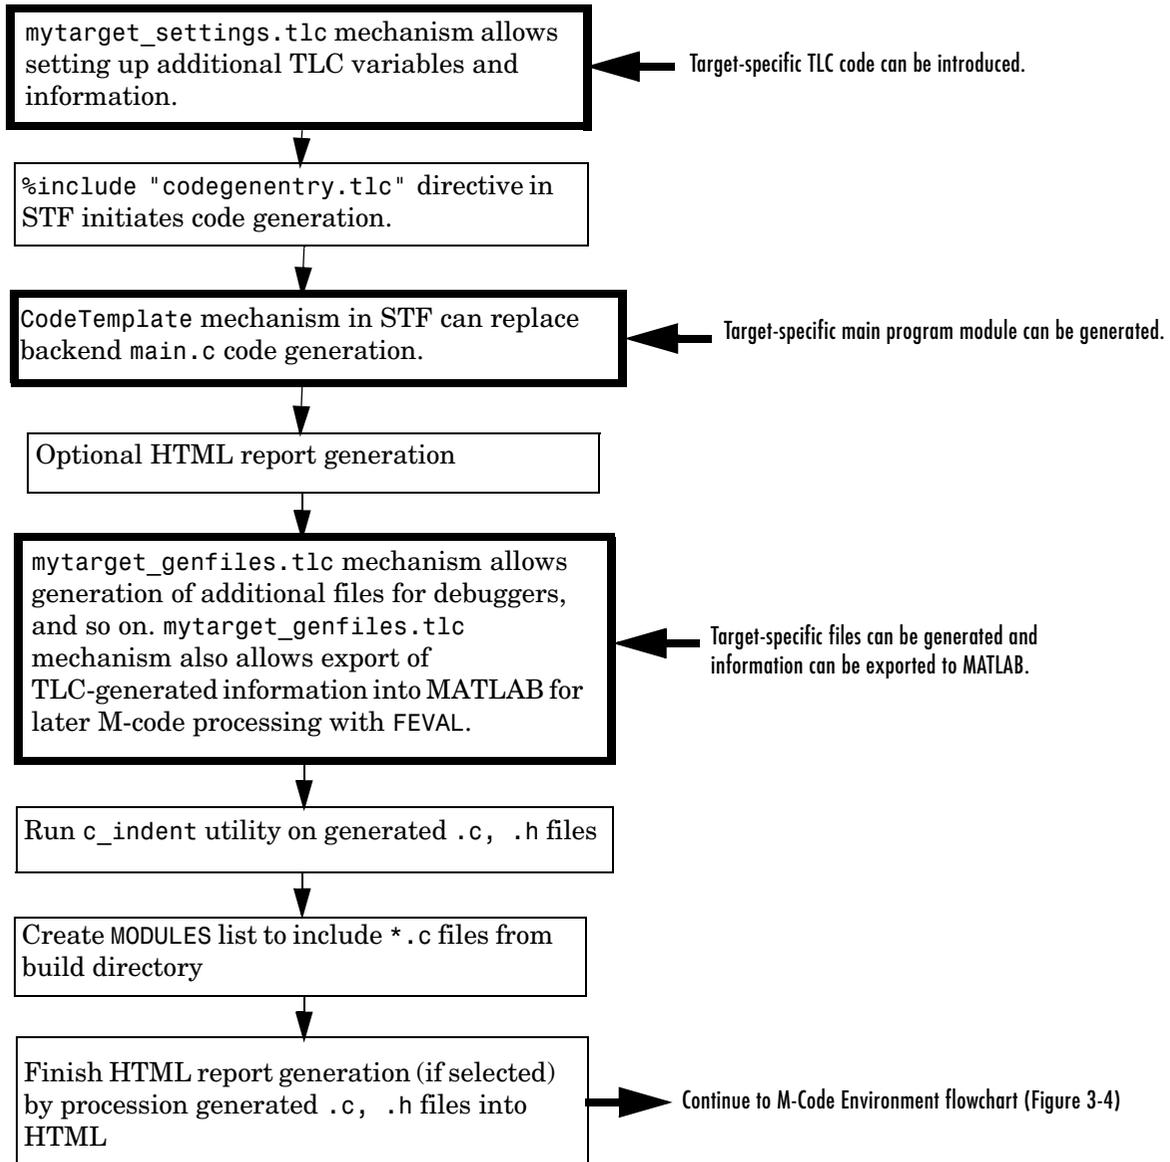

Figure 3-3: TLC and M-Code Environment Flowchart
- Figure 3-3 on page 3-14 depicts the main TLC code generation phase and M-code execution following it.